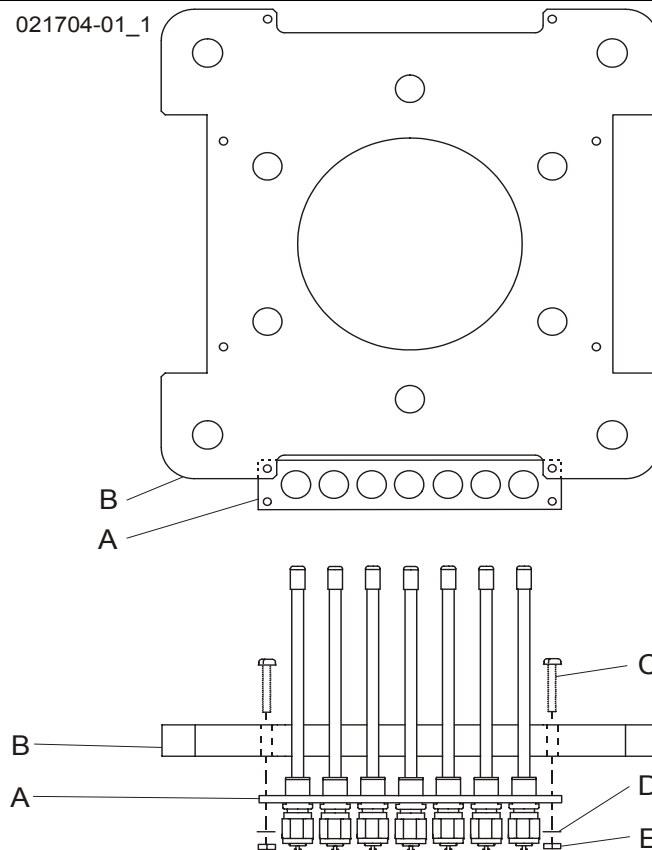

FIGURE 4-2. Installing the Gas Riser on the Mounting Plate
1. Place the bridge (A) under the mounting plate (B), and align the holes (FIGURE 4-2).